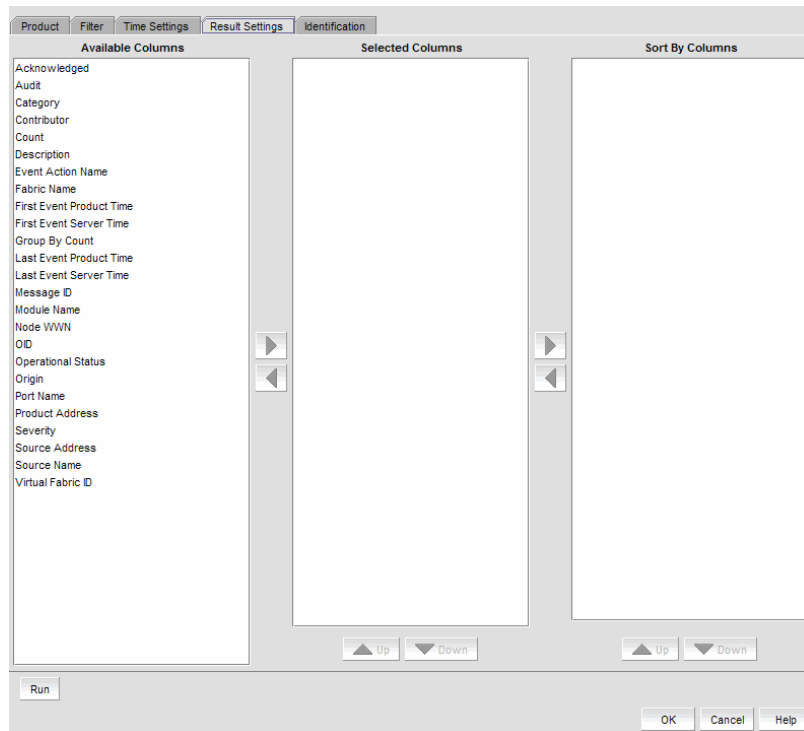

FIGURE 475 Add/Edit Report Definition dialog box - Product tab
3. The **Add/Edit Report Definition** dialog box - **Product** tab, shown in Figure 475, displays.